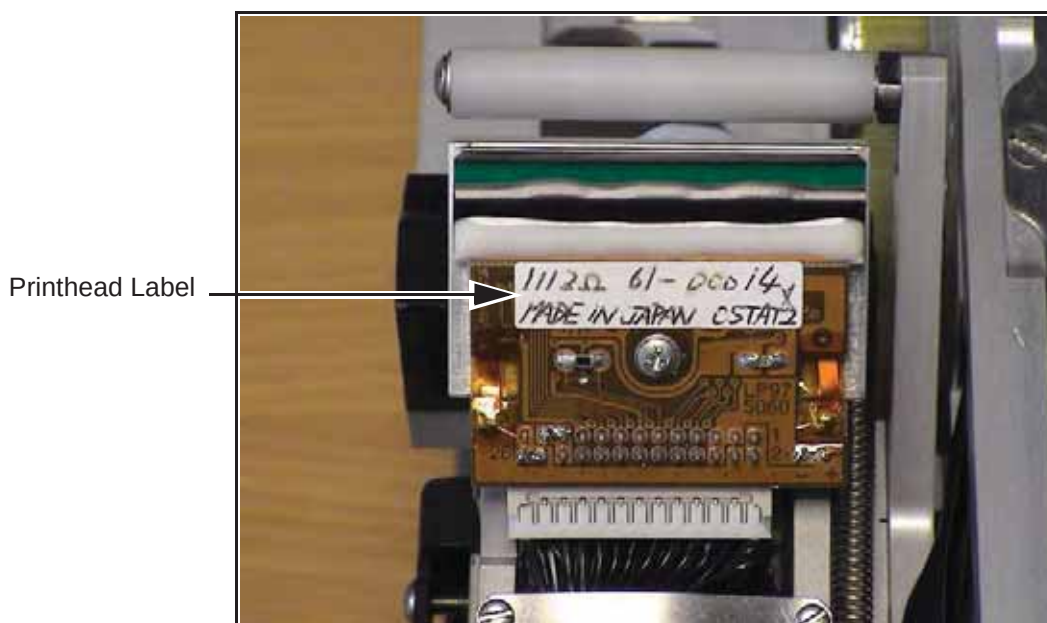

Figure 5-23: Printhead Resistance Value
- 1 Find and note the printhead resistance value from the label on the printhead (e.g. R=1113 O) as shown in Figure 5-23.